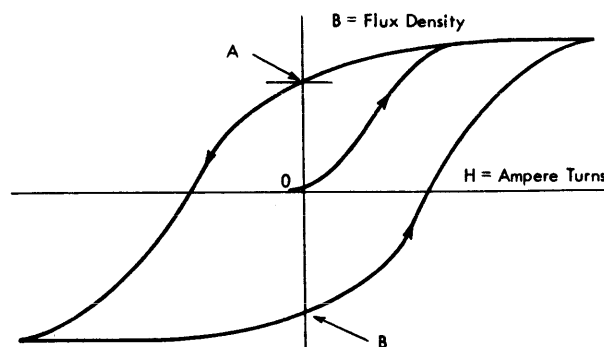

Figure 2. B-H Curve
A magnetic material can be polarized or partially polarized under the influence of a magnetic field. For every magnetic material, a B-H curve (Figure 2) can be plotted. The B-H curve shows the resultant flux densities (B) when the material is placed under the influence of a varying magnetizing force. If a magnetizing force of ampere-turns (H) is slowly increased in the positive direction, the resultant flux density in a magnetic medium at first increases rapidly, then slowly attains a steady value of flux.